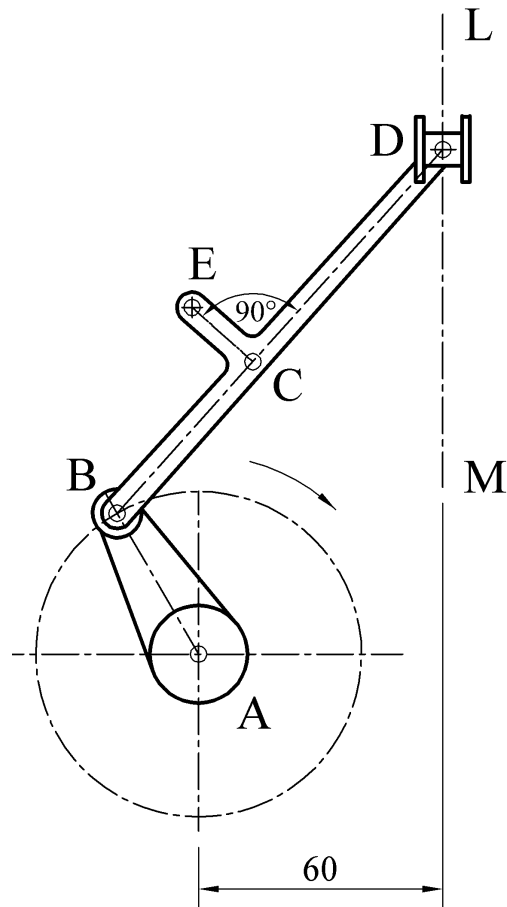

Fig. 3
- (b) Fig. 3 shows a link mechanism. Crank AB rotates about A in a clockwise direction. Link BD is pin jointed at B, and D is constrained to slide vertically along the line LM. CE is perpendicular to BD as shown.